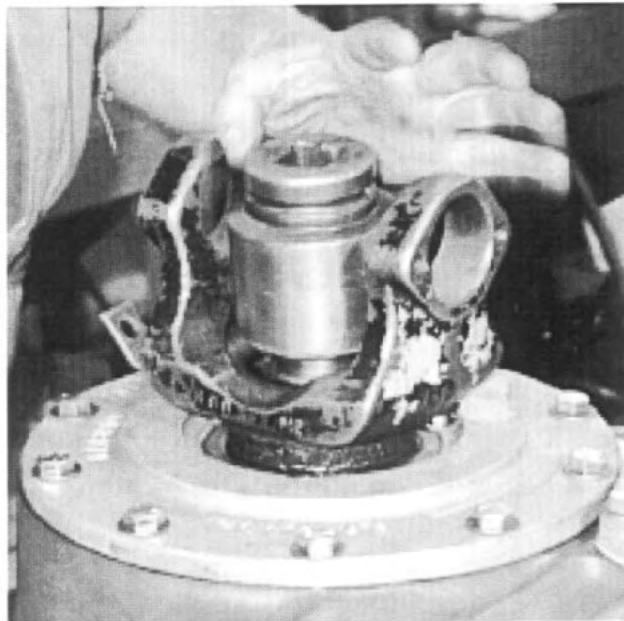

Fig. 21
21. Remove the yoke from the upper input shaft. See Fig. 21.